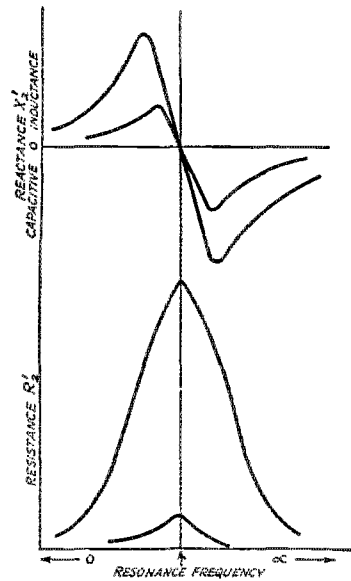

FIG. 3. — THE EFFECT UPON THE REACTANCE AND RESISTANCE OF THE SECONDARY CIRCUIT BY CHANGES IN FREQUENCY IS SHOWN
tions of this nature frequently make themselves very annoying in many radio circuits. The three cases analyzed above are probably best illustrated by means of the graph in Fig. 3. It can be clearly seen here just how any variation in frequency effects the inductance and resistance of the secondary circuit. Fig. 3 also shows the effects of coupling on the circuit's resistance and reactance. The greater the value of coupling the greater the effective resistance, and also the greater the variations in secondary inductance.
clicks in some calibrated oscillating circuit and then find that when this coil is inserted in a radio system and coupled to some other circuit that it will no longer tune over the frequency range it was designed to cover. Why this is true can be seen from a consideration of Cases (1) and (2) and an inspection of Fig. 3 for these two cases. The remedy for conditions of this nature is to either redesign the coil or to reduce the value of the coefficient of coupling. This difficulty is most frequently encountered in tuned r.f. systems, where the plate circuit of the preceding tube is coupled rather closely to the next tuned circuit